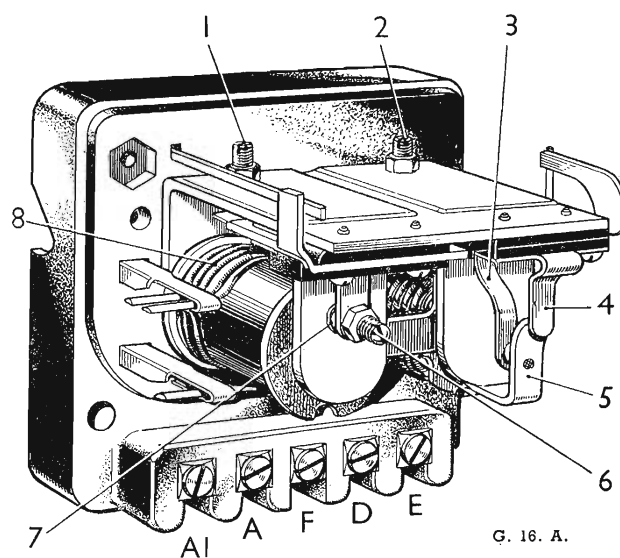

Fig. M.16. Control box.
- (3) Shut off the engine, remove the control box cover, release the locknut (1) Fig. M.16, holding the adjusting screw (2) and turn the screw in a clockwise direction to raise the setting or in an anti-clockwise direction to lower the setting. Turn the adjustment screw a fraction of a turn and then
If operation of the cut-out takes place outside these limits, it will be necessary to adjust. To do this, slacken the locknut of (2), Fig. M.16, securing the cut-out adjusting screw and turn the screw in a clockwise direction to raise the voltage setting, or in an anti-clockwise direction to reduce the setting. Turn the screw a fraction at a time and then tighten the locknut. Test after each adjustment by increasing the engine speed and noting the voltmeter readings at the instant of contact closure. Electrical settings of the cut-out, like the regulator, must be made as quickly as possible because of temperature rise effects. Tighten the locknut after making the adjustment.